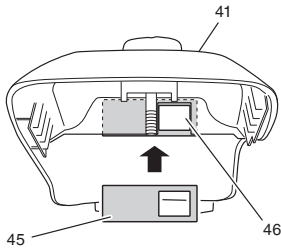

Fig. 39
Icing protection system (Fig. 39, 40)
1. When you need icing system work, remove air filter cover (41). Pull out the shutter (45) from inside the air filter cover and reinstall it in winter time position by turning half-way. (Fig. 39) This will allow heated air to flow from cylinder side to carburetor cabin through the opening (46).